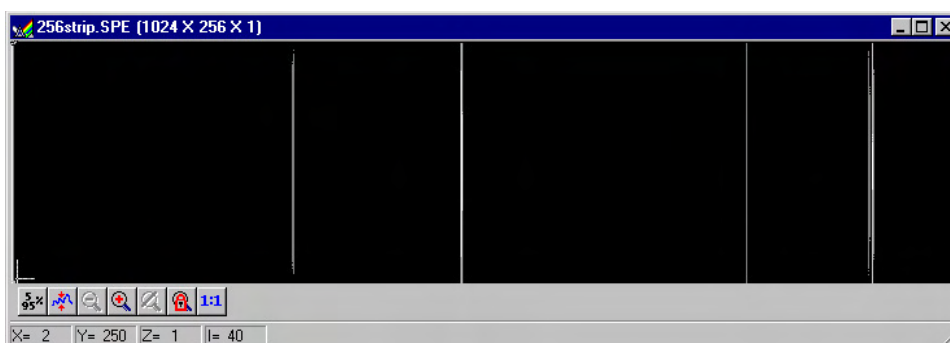

Figure 78. Image display of 256 data strips
- If there are eleven or more strips of data, they will be displayed as a normal image, such as that shown in Figure 78.